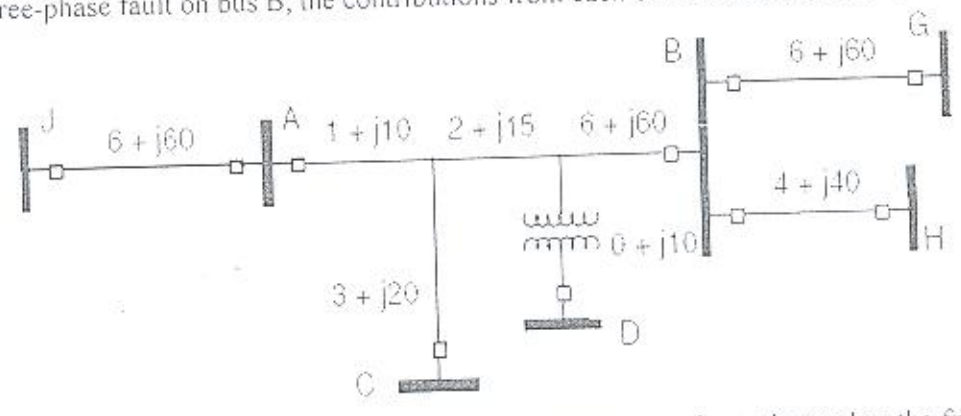

Fig. 4 →
- b) Consider the multi-terminal line in the system shown in Fig. 4. Each of the buses C, D, G, H and J has a source of power behind it. For a three-phase fault on bus B, the contributions from each of the sources are as follows: